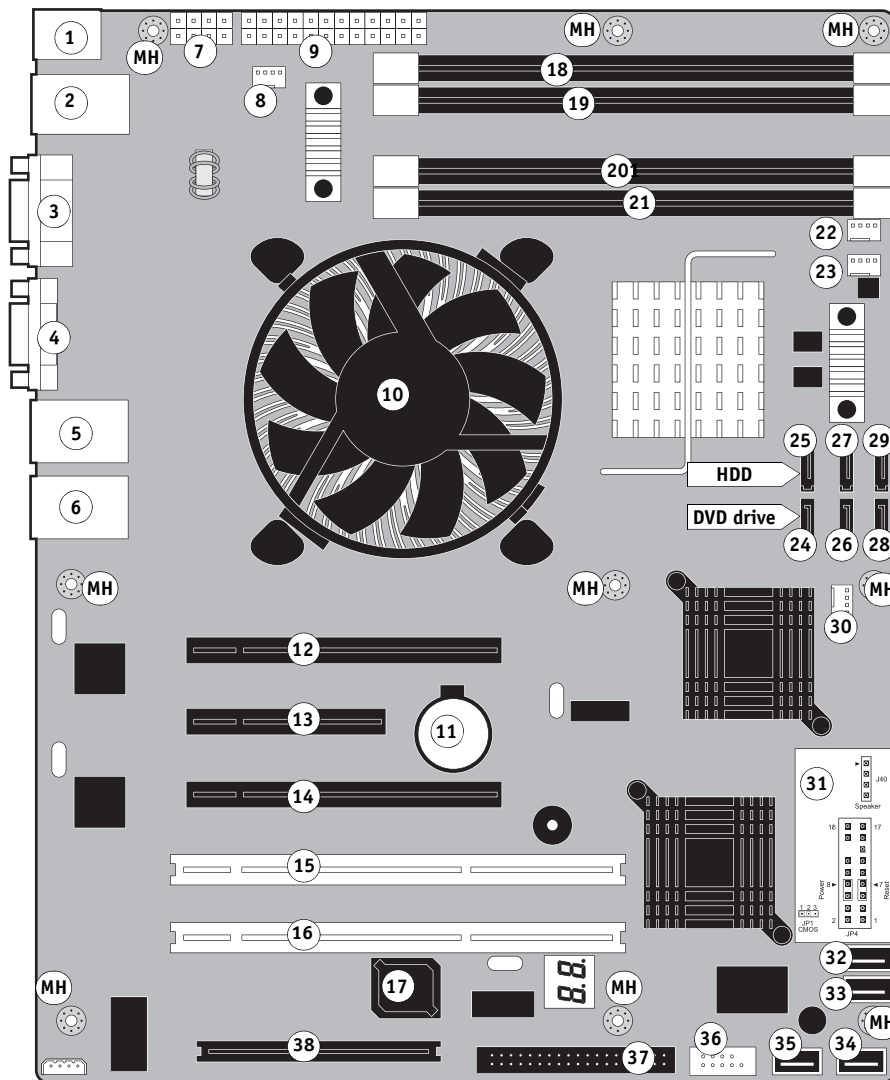

FIGURE 20: Diagram of the E-41A motherboard
The UIB cable is routed from a connector on the back of the User Interface Board to connector J38 on the motherboard (see Figure 20 on page 64).
For motherboard connector locations, see Figure 20 on page 64.
2. Remove the 9 mounting screws securing the motherboard to the chassis (for screw locations, see Figure 20 on page 64).**3. Remove the motherboard from the chassis.**
4. **Replace the video board in motherboard connector J12 (see Figure 20 on page 64).**